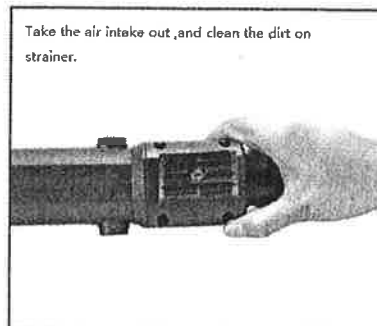

Fig. 6 Air Intake
4. Clean the air intake (see Fig. 6). There is an air intake on the back cover. After 2-3 days of use, open the rear cover, remove wools and dirt built up in the air intake with a dry brush in order to keep the air intake through and clean. Cloth or brush carrying oil or water is not allowed to clean the air intake, as it may cause short or open circuit.